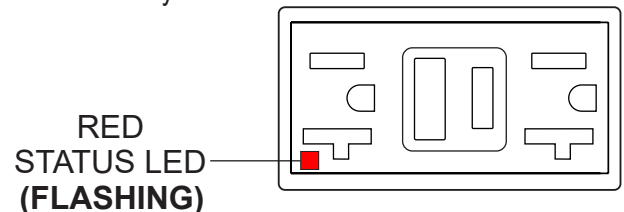

Figure 137. GFCI Receptacle (Red Flashing LED)
6. If the **status LED** (Figure 137) is **flashing (RED)**, **DO NOT** use the GFCI receptacle. Replace it immediately.